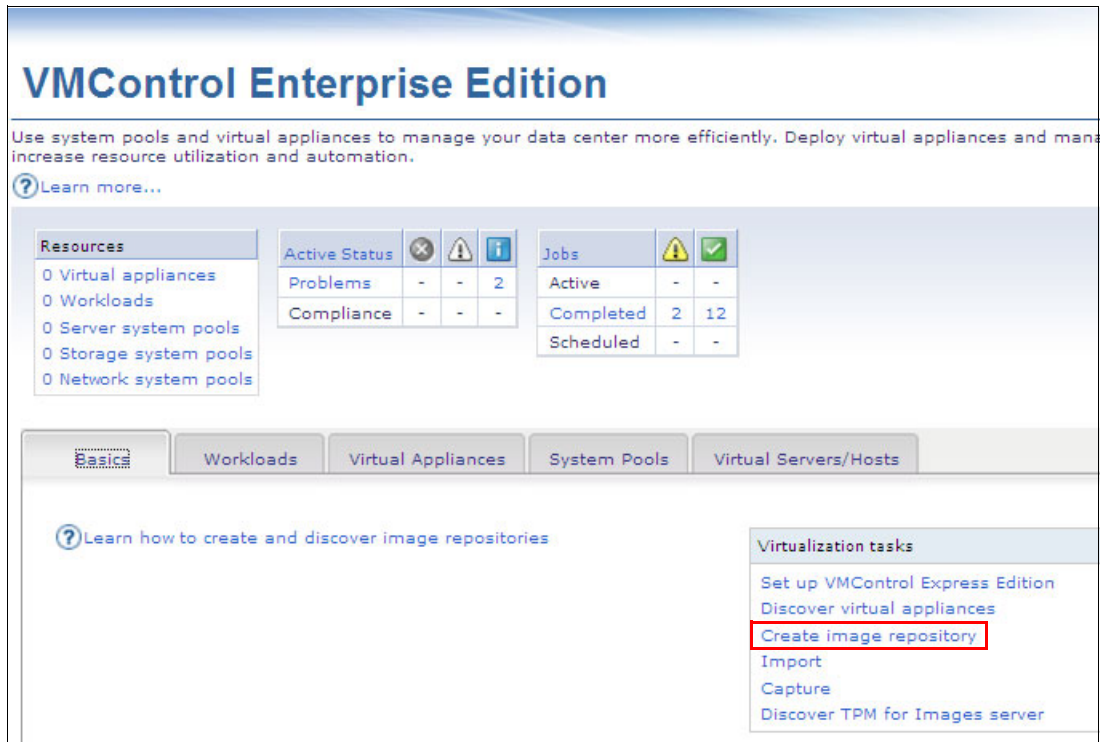

Figure 10-57 Create the image repository on the Basics tab
11. Click **Create image repository**, as shown in Figure 10-57.